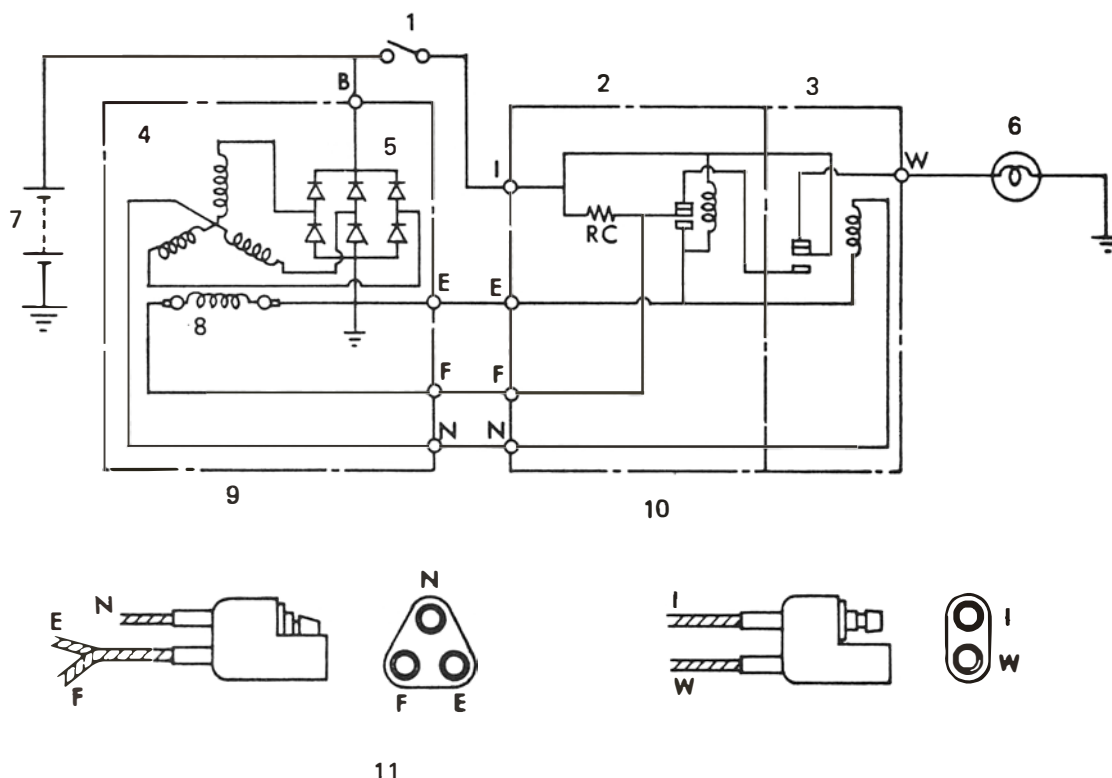

Figure 4
When the stator switch is closed, voltage from the battery is applied on the terminal I of the regulator, see Figure 4, thus the field relay is not operating, and the charge lamp is lighted through the W terminal. A field current is supplied through the terminal F of the alternator through the RC resistor of the regulator. When the revolution of the alternator increases by starting the engine, output voltage is generated in terminal B. As the revolution of the alternator increases, voltage equivalent to one-half of the voltage
2. Turn the starter switch to the "ON" position and check the voltage between the terminals I and E, Figure 4, to be approximately 12v, and the voltage between the terminals F and E to be approximately 6v.